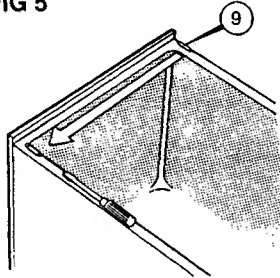

FIG 6
7. It is important that the spacer (6) is retained with screw (4) in the channel between the base of the appliance and the foot/hinge when screwing the assembly into its new position.
9. Replace the level adjuster (1) in the small foot.
11. If your appliance has a side fix handle, see Fig 6.